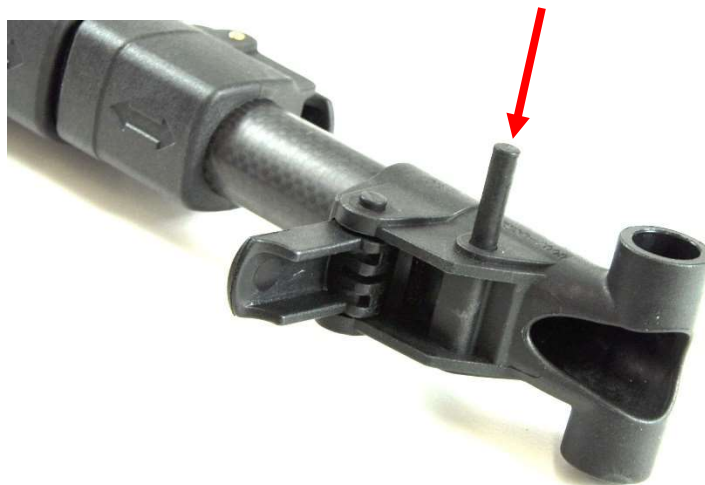

Figure 72: Inserting Pin Lower Camlock.
- Push the pin into the camlock lower. Shown in Figure 72.